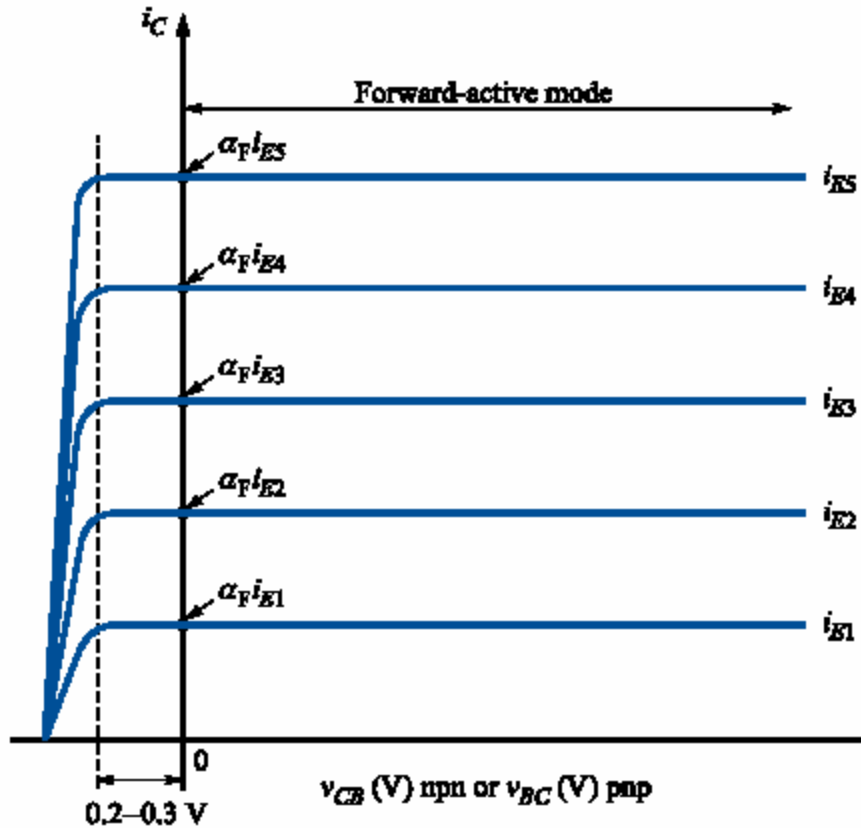

Figure 6.3: Transistor I-V Characteristics for Common Base Circuit
5. Change Negative power supply from 0 to -1 V in steps of 100 mV. By using negative supply, we are slowly forward biasing the C-B junction. You should still be in forward active region until the forward bias exceeds 200-300 mV as indicated in Figure 6.3. Later current should fall to zero.